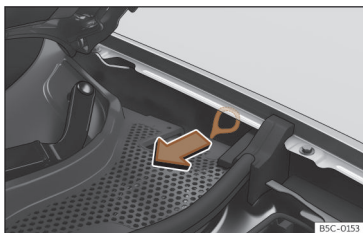

Fig. 63 Between the left wing panel and the engine bonnet hinge: Charging connector manual release mechanism puller.
The puller for the manual release mechanism is on the left hand side of the engine compartment, above the charging socket >>> Fig. 63.
- Pull the puller >>> Fig. 63.